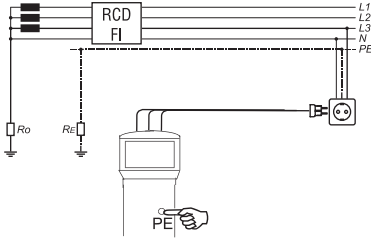
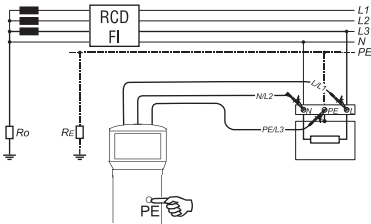

Figure 5.6.2: RCD test connection, testing with shockproof plug
Figure 5.6.3: RCD test connection, testing with test leads
- Now connect the test leads to the UUT. For correct connection, please refer to Figure 5.6.2 or Figure 5.6.3.